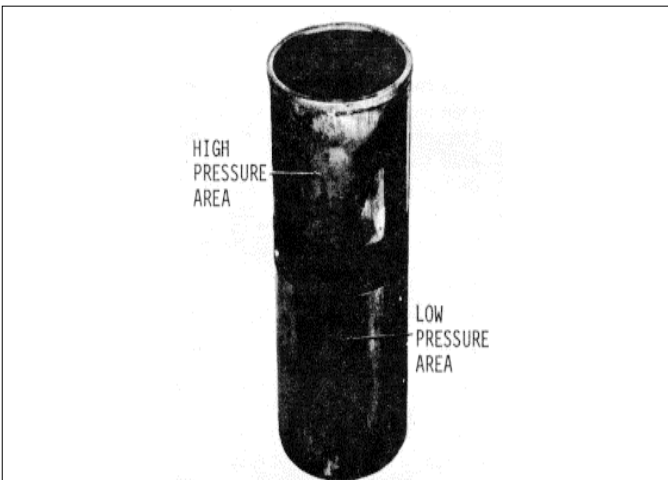

Fig. 11
- (2) The cylinder liner is alternately expanding and contracting, during engine operation, due to temperature variations. This may result in irregularities in the block bores (out-of-round and taper), the effects of which will be seen as high pressure areas on the outside diameter of the cylinder liner (Fig. 11). A slight increase in block bore size is normal with high mileage or long periods of engine operation.